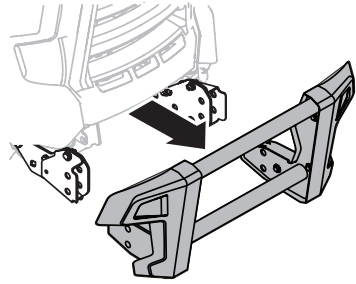

Fig. 62
2. The brush guard assembly may now be removed (Fig. 62).